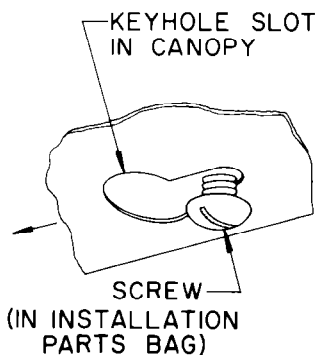

FIG. 2
4. Remove hood and start all four screws in center of narrow neck of keyhole slot marked on cabinet bottom (Fig. 2).